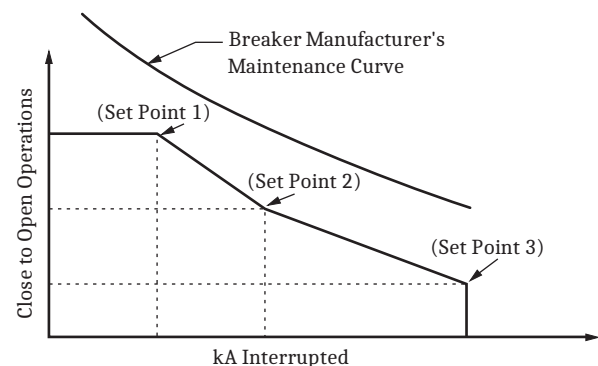

Figure 3 Breaker Contact Wear Curve and Settings
- Every time the breaker trips, the merging unit integrates interrupted current. When the result of this integration exceeds the threshold set by the breaker wear curve (*Figure 3*), the relay can alarm via an output contact or the front-panel display. With this information, you can schedule breaker maintenance in a timely, economical fashion.